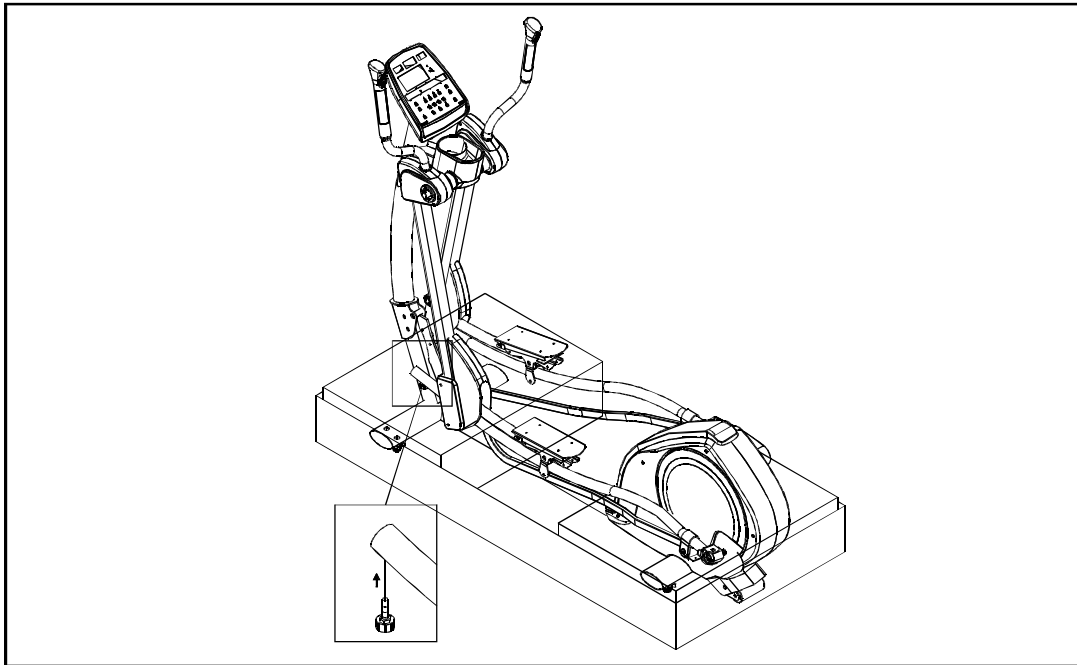

Fig.4
**STEP 7.** Secure stopper bolts on the front, bottom of both glide rails. Then remove the unit from the lower box. (See Fig. 4 )